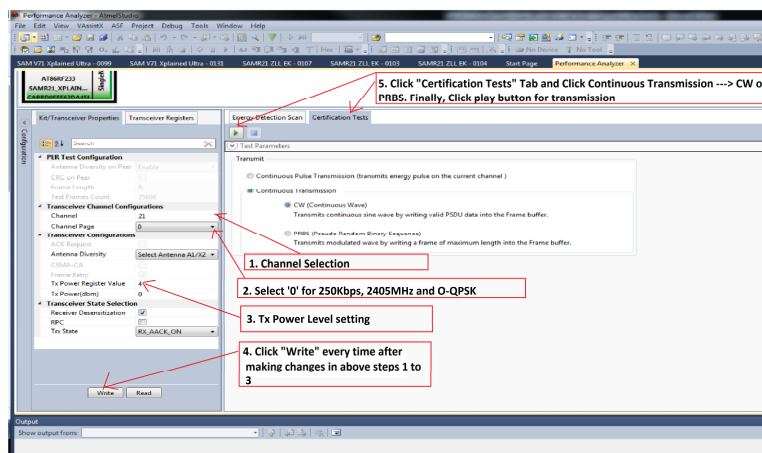

Figure 13: Performance Analyzer – Continuous mode configuration
4. Kit / Transceiver properties, Channel Page, channel Number and Power level can also be changed in the Performance Analyzer window. Refer steps 1 to 3 in Figure 13
5. TX power register values to change transmit power. Refer Step 4 in Figure 13
6. To Transmit CW mode or PRBS mode, click on Continuous transmission and select continuous transmission CW or PRBS. Refer step 5 in Figure 13